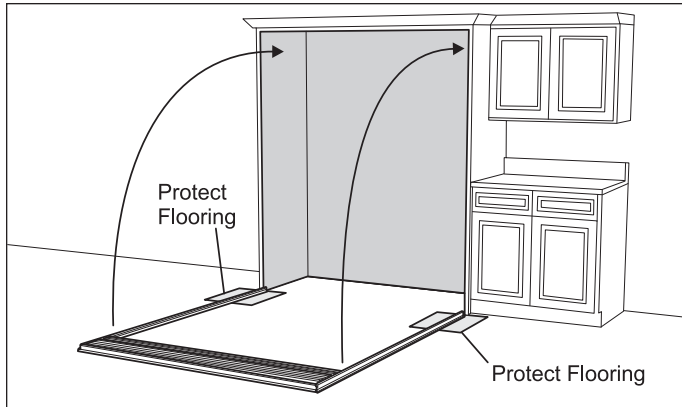

Figure 2-14.
1. First, place protective covering where side trim will contact the floor near rough opening. Then, stand up the grill and frame assembly and center in rough opening. You may need to use several pieces of tape at the top corners and top center to temporarily hold the assembly in place. (See Figure 2-14).